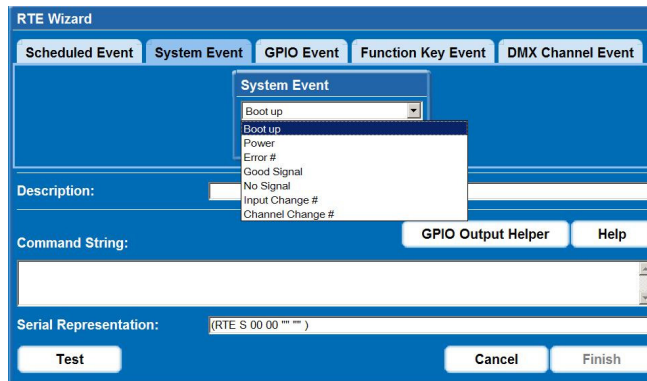

FIGURE 4-18 ADD SYSTEM EVENT
- Select a type of event from the **System Event** drop-down list. NOTE: *Depending on the selection made, additional selections are made available in the second drop-down list located underneath (i.e. Input Change > Input 1, Slot 1).* See Figure 4-18 Add System Event.